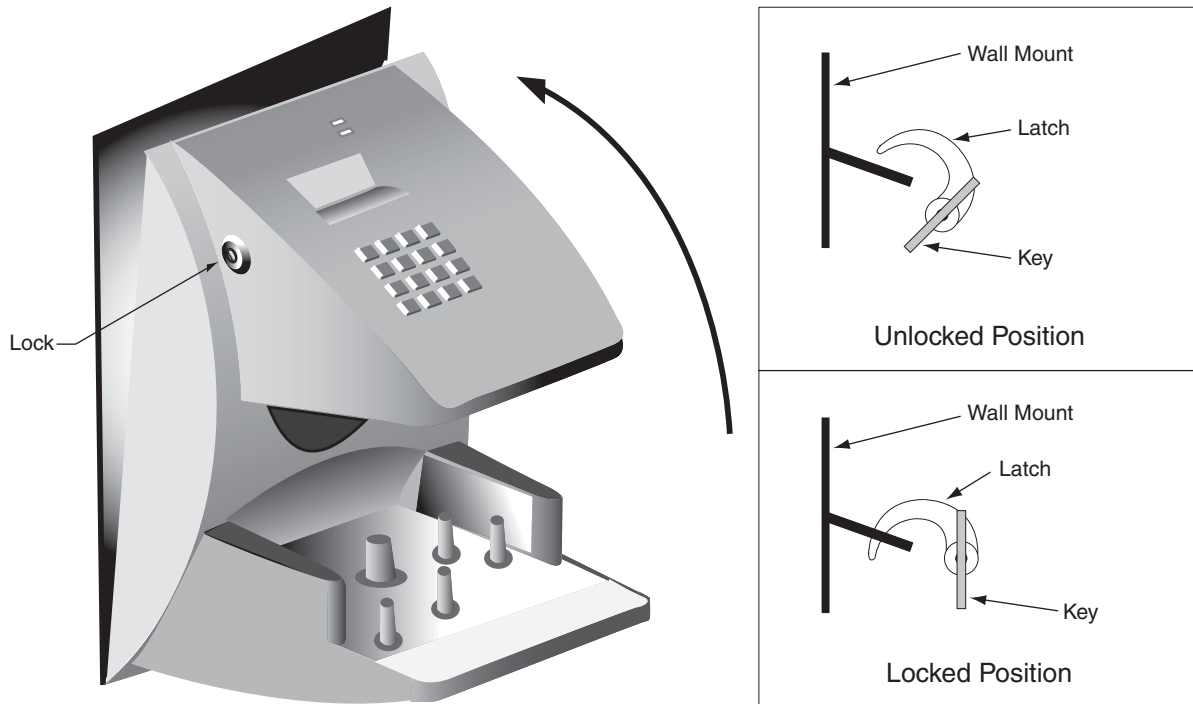

Figure 6
12. With the key in the unlocked position, rotate the HandReader back upright. Turn the key counter-clockwise to lock the HandReader into place. See figure 6 below.